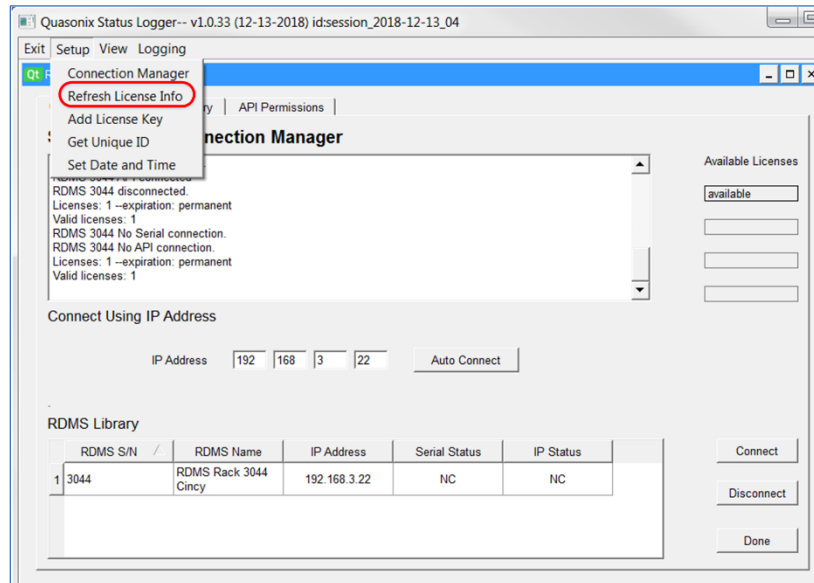

Figure 6: Quasonix Status Logger Setup Menu
2. Select Refresh License Info from the drop down menu, as shown in Figure 6.